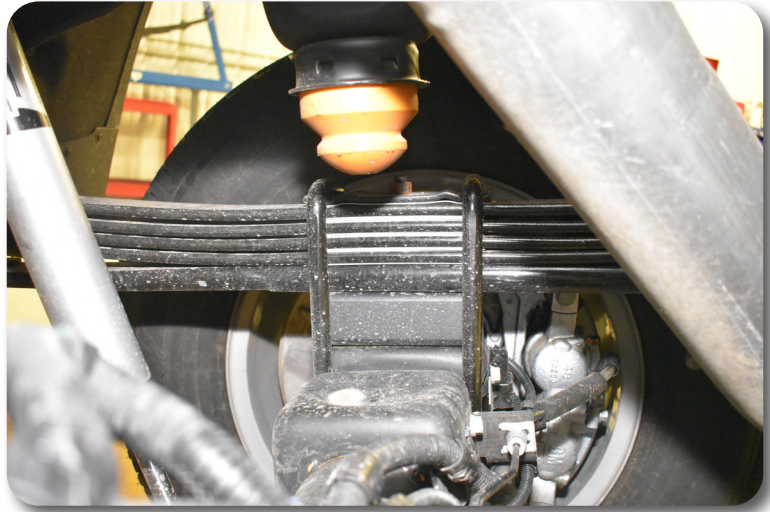

Figure 18
7. Install the new blocks between the axle and the leaf spring. Align the pins/holes and raise the axle to seat the assembly. Install the new provided u-bolts with the factory u-bolt plate. **Figure 18** Fasten with the provided locking flange nuts. Snug hardware. Final torque will be down with the vehicle on the ground.